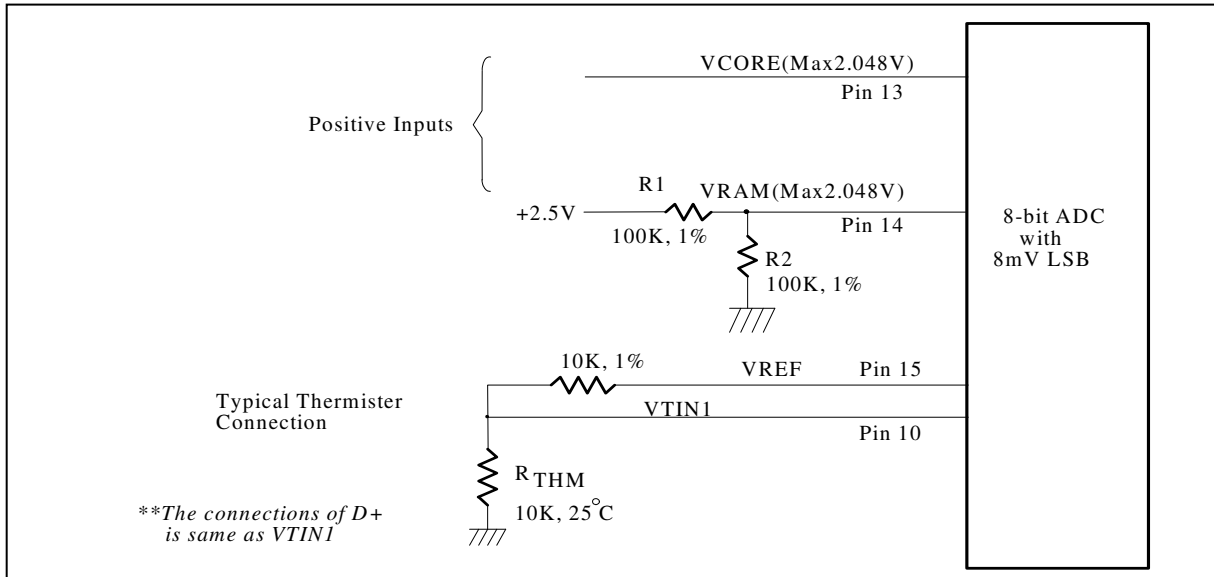

Figure 3
The maximum input voltage of the analog pin is 2.048V because the 8-bit ADC has the 8mV LSB. Actually, the application of the voltage monitoring would most often be connected to power suppliers. The input voltage lower than 2.048V could directly connect to the analog inputs. The inputs voltage higher than 2.048V should be reduced by external resistors so as to meet the input range. This is shown in Figure 3.
The W83L786NR/NG can connect one thermistor and one thermal diode sensor to measure two different environment temperatures. The specification of thermistor should be considered to (1) β value is 3435 K, and (2) resistor value is 10K ohms at 25°C. In the Figure 3, the themistor is connected by a serial resistor with 10K Ohms, and then connect to V_{REF} (pin 15).